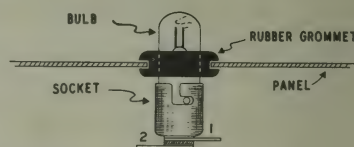

Figure 12 TOP VIEW
- (✓) Connect the inner conductor of that same Spirashield to VC3 (S).
- (✓) Connect either lead of the twisted pair to VC4 (S).
- (✓) Connect the other lead of the twisted pair to VC5 (S).
- (✓) Install #47 bulbs in each of the two pilot lamp sockets and insert the bulbs partly through each of the two grommets just installed from the rear side of the dial plate. Position the lugs as shown. See Figure 12.